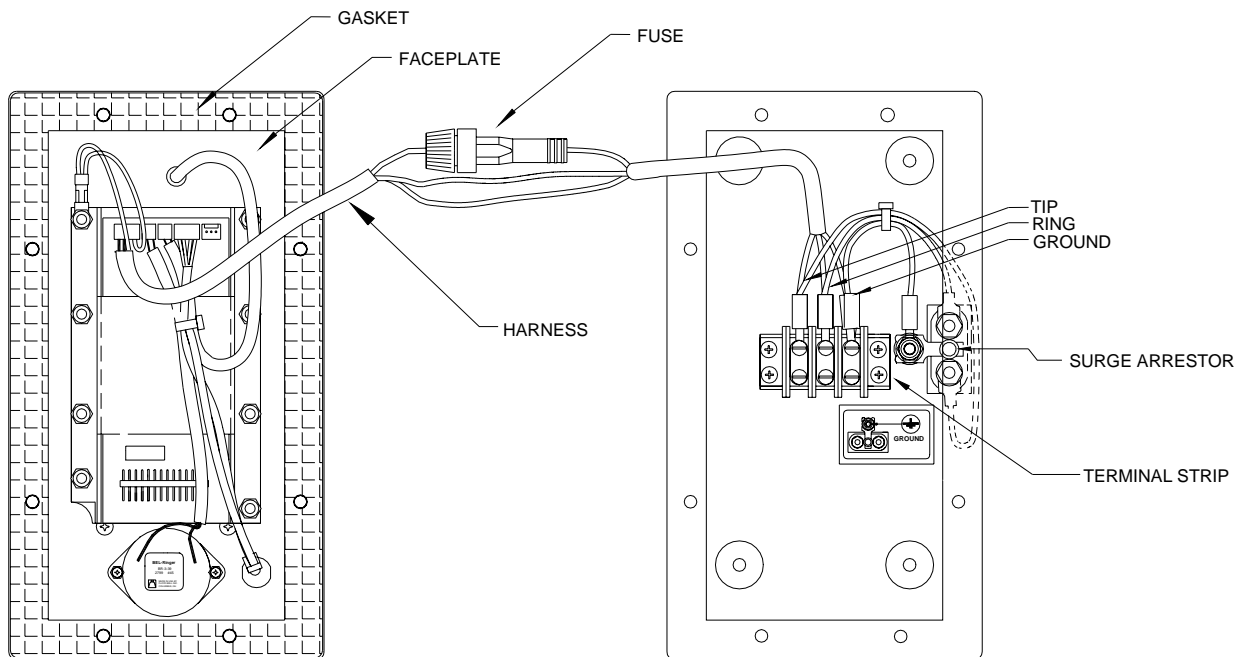
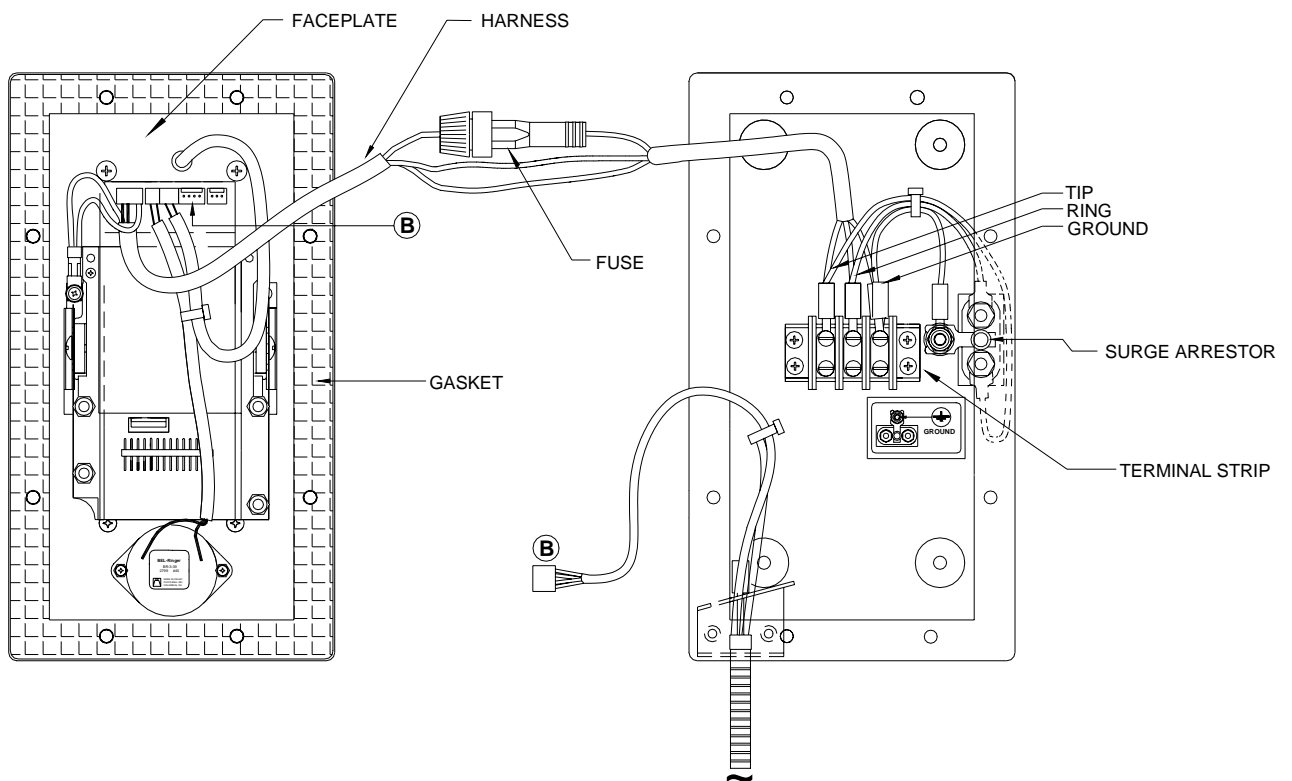

Figure 3 - Installation SCR-11-A
Figure 4 - Installation SCR-41-A
| Figure 3 - Installation SCR-11-A.....         | 6 |
| Figure 4 - Installation SCR-41-A.....         | 6 |
*See: Figure 3 - Installation SCR-11-A & Figure 4 - Installation SCR-41-A.*
**See:** *Figure 3 - Installation SCR-11-A*